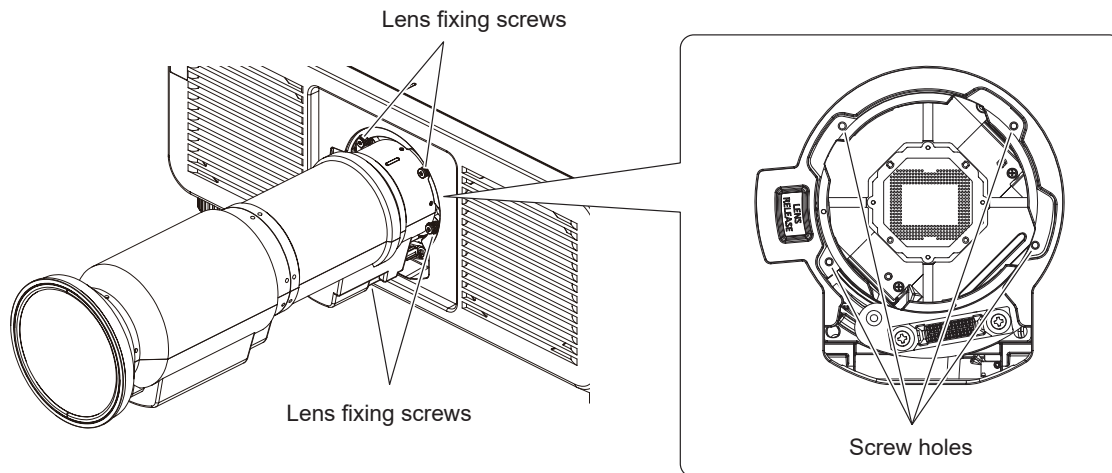

Fig. 4
- 4) **Secure the projection lens with the lens fixing screws. (Fig. 4) (Only for ET-C1U100)**